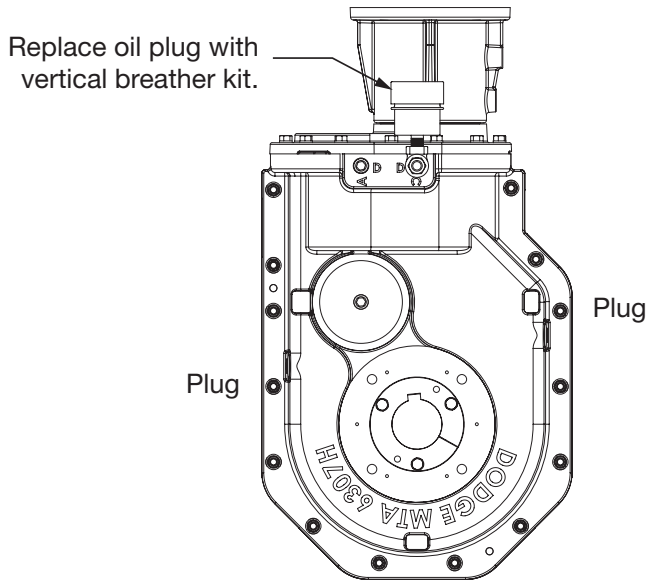

Figure 4 - Installed Position D Breather Kit replaces standard breather
3. Remove standard breather from reducer (if installed) and replace with solid oil plug. (See Figure 4)